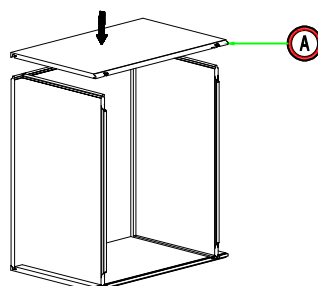

Figure 4
4. Installing the Remaining Panels: Insert the side panel (A) into the groove of the back panel (B) locking it into the top and bottom panels (C). (Figure 4)